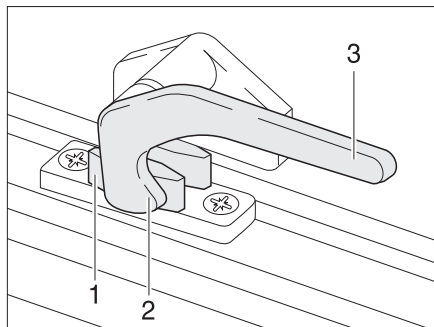

Fig. 11 Catch lever in "closed" position
- Turn the catch lever (Fig. 11,3) a quarter turn towards the centre of the window.
- Turn the catch lever (Fig. 11,3) a quarter turn towards the window frame. The locking catch (Fig. 11,2) is located on the inside of the window catch (Fig. 11,1).